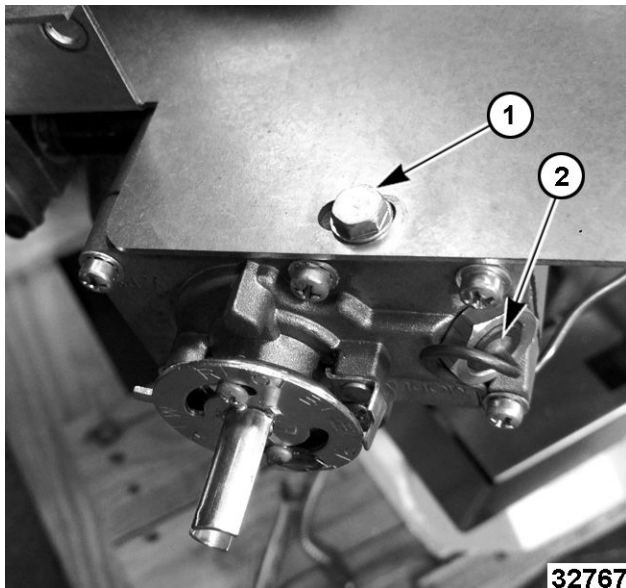

Fig. 28
3. Remove screw (1, Fig. 28) securing temperature control to gas mount bracket.
Remove capillary (2, Fig. 28).